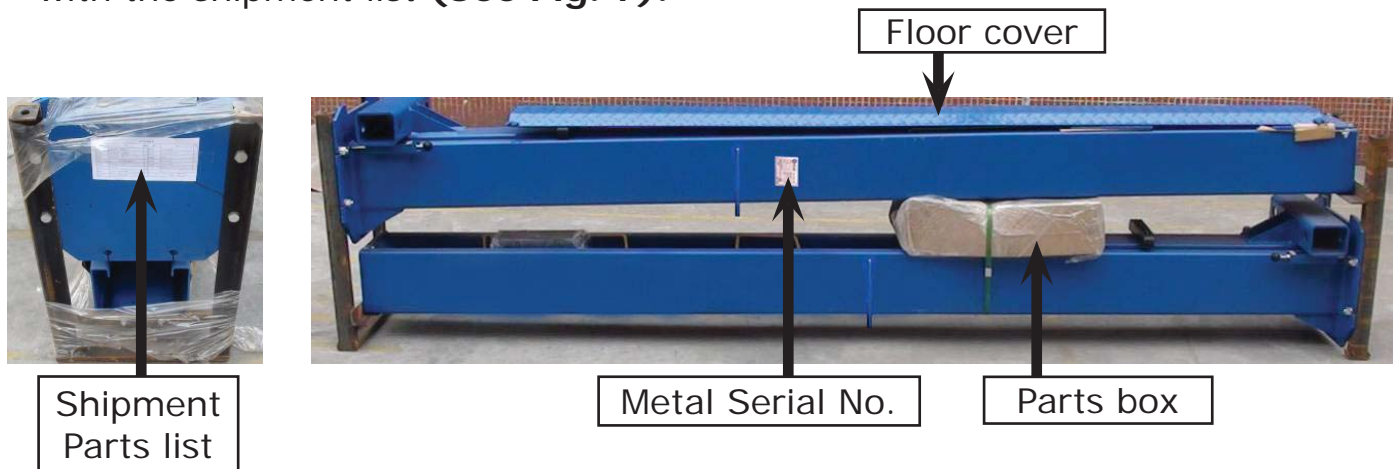

Fig.7
2. Move the lift with fork lift or hoist, open the outer packing and check the parts with the shipment list (See Fig. 7).